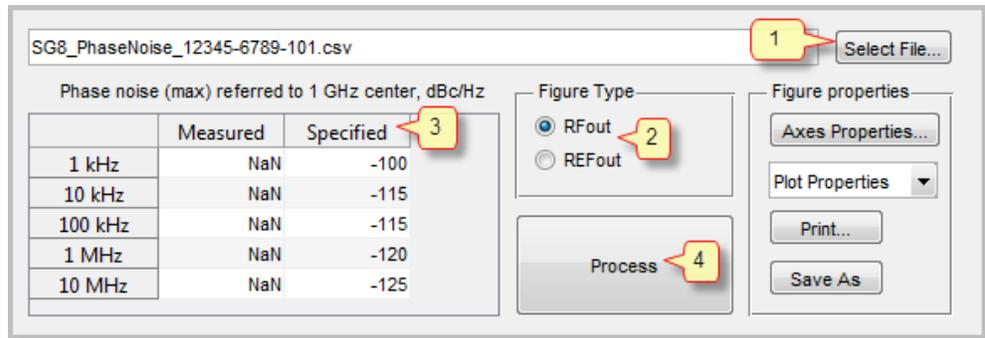
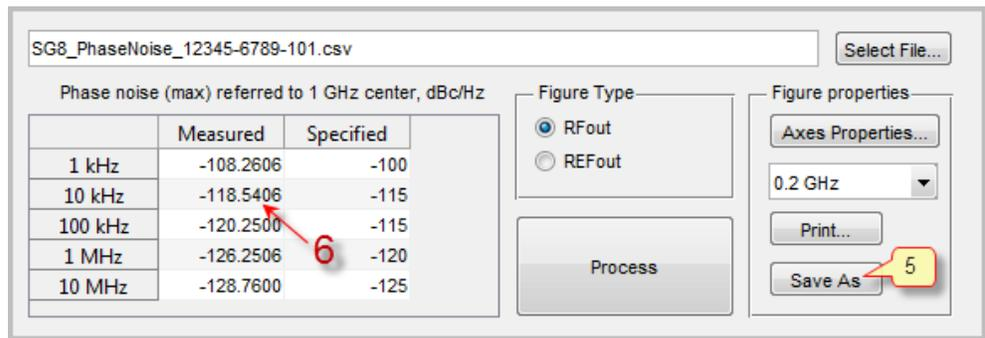

Figure 18: SG8_TP_PhaseNoise application – selecting file and specifying phase noise mask
Figure 19: SG8_TP_PhaseNoise application – reading max phase noise values and saving plot figure
1. Select phase noise file: SG8_RFout_PhN_<Serial_No>.csv – for RF Out and SG8_REFout_PhN_<Serial_No>.csv – for REF Out (item 1, figure 18).
2. Select the option corresponding the selected file (item 2).
3. Modify default mask values if needed (item 3).
4. Press “Process” button (item 4).
5. Save the plot (item 5, figure 19).
6. Table (item 6) contains maximum values of normalized phase noise over all set of center frequencies at specified offsets.